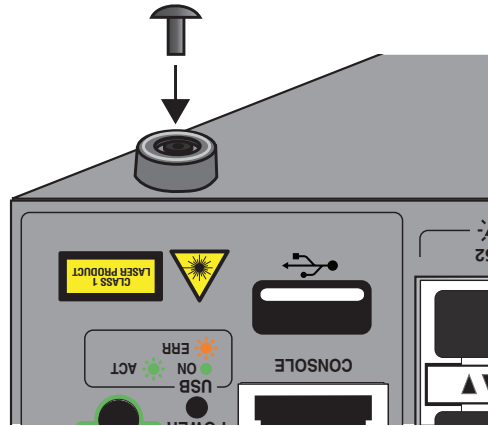

Figure 45. Inserting the Rivet into the Bumper Foot
4. Insert the rivet to secure the bumper foot to the base. Refer to Figure 45 on page 106.